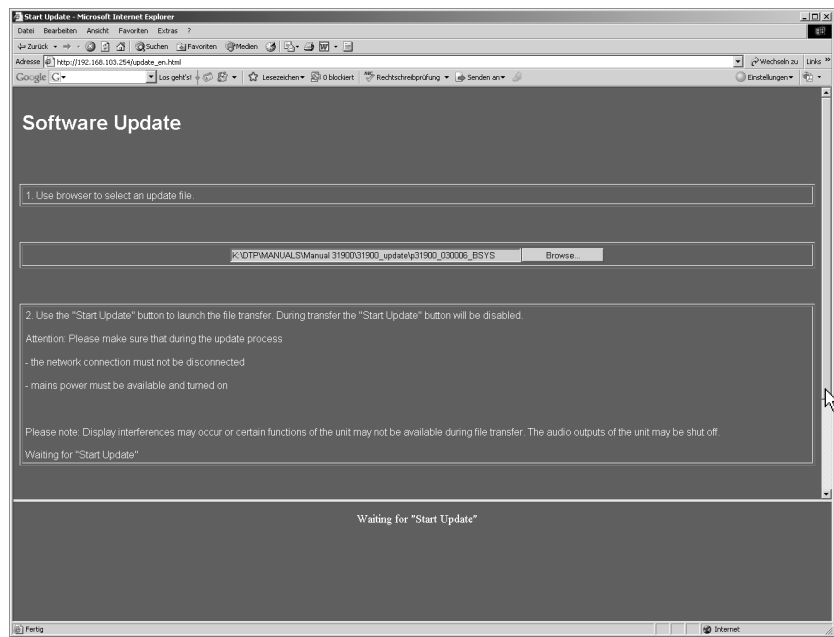

Fig. 8-7: Selection of the update file and moving the menu page with the scrollbar
5. After selecting the update file move the menu page upward by moving downward the grey scrollbar on the right (see mouse pointer in Fig. 8-7).